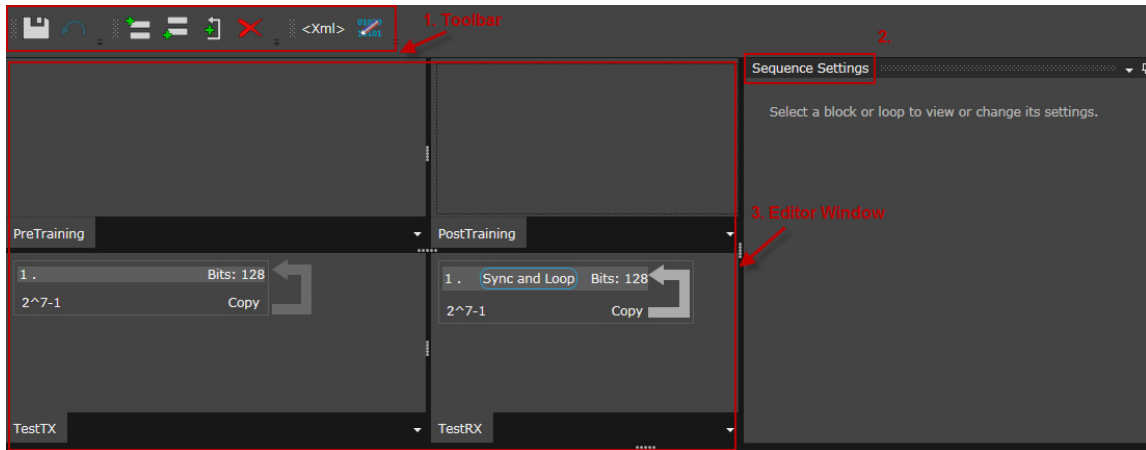

Figure 21 MultiGBASE TX-EQ Training-Sequence Editor User Interface
- *MultiGBASE TX EQ Training* - Sequence editor window opens in a new tab as shown in Figure 21.